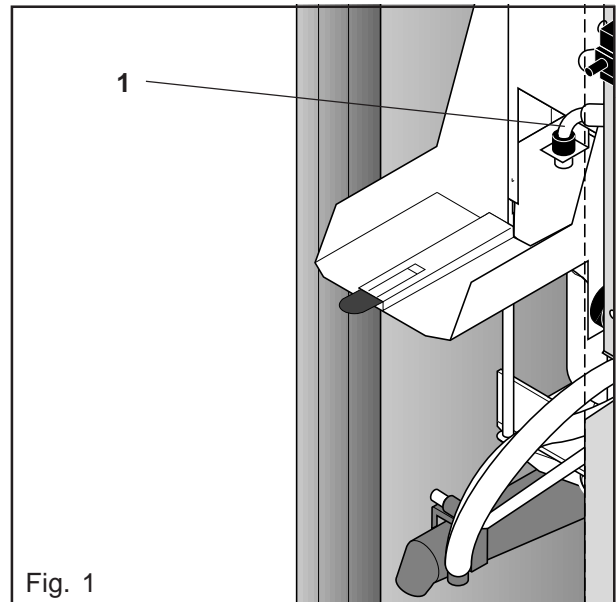

Fig. 1
Connect the hose to the water inlet elbow (1), and put the elbow into a container, so that the water does not run into the dispenser. (Fig. 1)